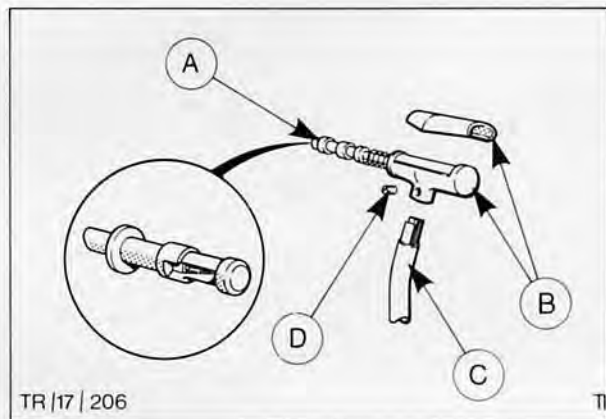

Fig. 8. Selector lever handle assembly
4. Remove push button assembly, Fig. 8.
7. Refit push button to handle, longest key way first. See insert Fig. 8.